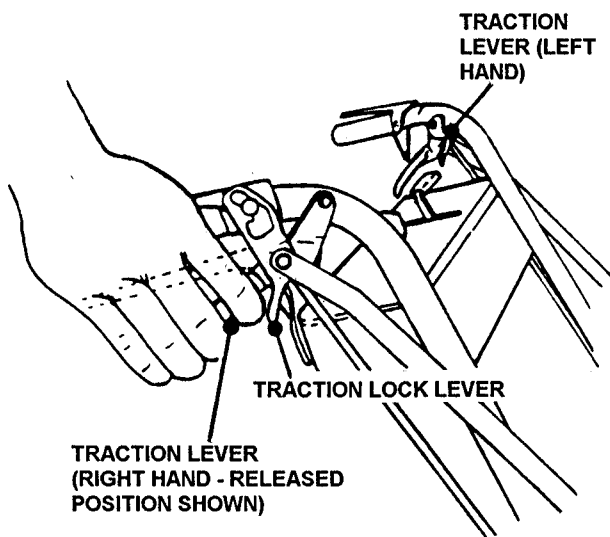

FIGURE 17
3. To **release** Traction Lock, squeeze both Traction Levers firmly against the handle. Using index finger, push Traction Lock Lever forward. Simultaneously release both Traction Levers slowly, allowing machine to start forward movement. See Figure 17.